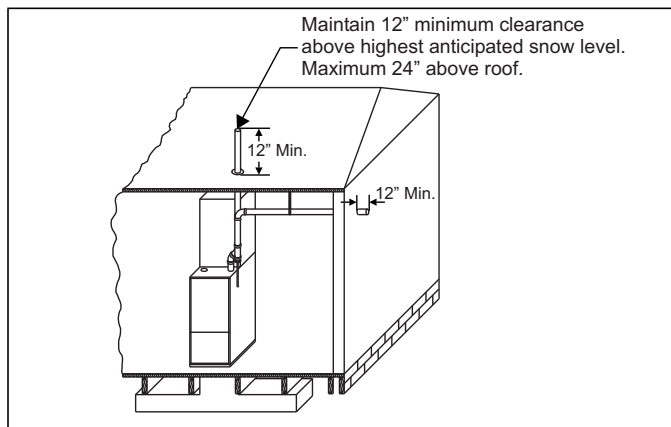
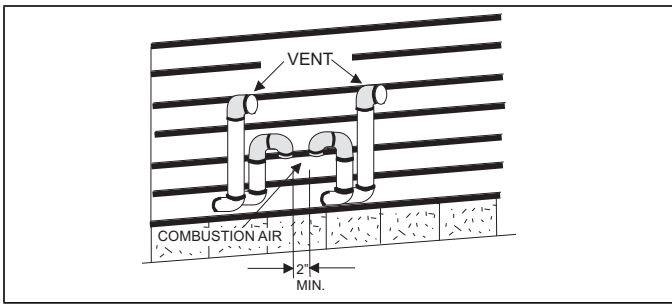
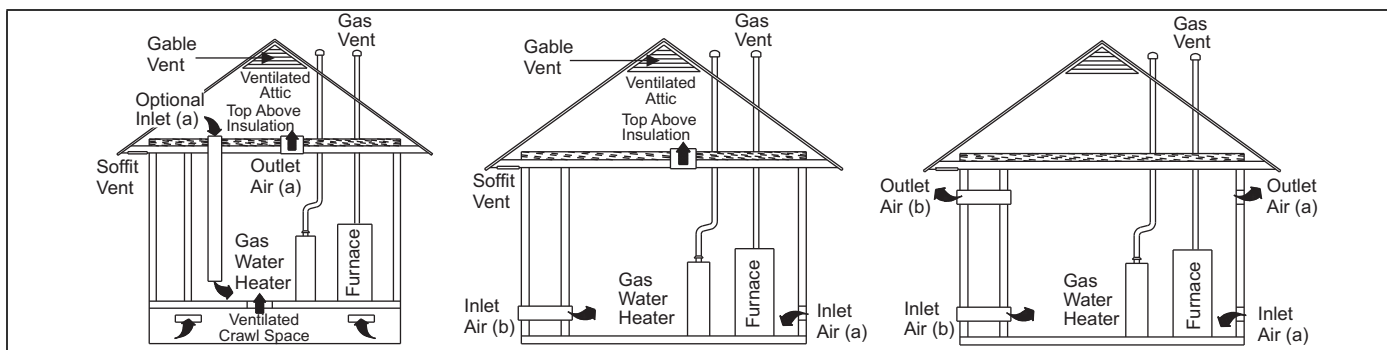

Figure 20: Termination Configuration - 1 Pipe
Figure 23: Double Horizontal Combustion Air Intake and Vent Termination
Figure 28: Ambient Combustion Air
The combustion air side of the single-pipe configuration shown in Figures 20 and 28 is referred to in these instructions as ambient combustion air supply. Follow the instructions for ambient combustion air installations, paying particular attention to the information on air source from inside the building in the Ambient Combustion Air Supply section. The vent for a single-pipe system must be installed as specified in the VENT APPLICATIONS AND TERMINATION section with both vents terminating as shown in Figures 23 to 24. Each furnace must have a separate vent pipe. Under NO circumstances can the two vent pipes be tied together.
The combustion air side of the two-pipe configuration shown in Figures 23 and 24 can be installed so the combustion air pipe terminates as described in the Outdoor Combustion Air section or the Ventilated Combustion Air section. Follow the instructions for outdoor combustion air or ventilated combustion air and the instructions for installing the vent system with the vent terminating as shown in Figures 23 and 24. The two-pipe system must have a separate combustion air pipe and a separate vent pipe for each furnace. Under NO circumstances can the two combustion air or vent pipes be tied together. The combustion air and vent pipes must terminate in the same atmospheric zone.
- **AMBIENT COMBUSTION AIR:** Combustion air is supplied from the area surrounding the furnace through openings in the furnace casing. The combustion air and the vent pipes are not terminated in the same atmospheric zone. See Figure 20 for vent terminations. See the Ambient Combustion Air Supply section for proper installation. See Figure 28.